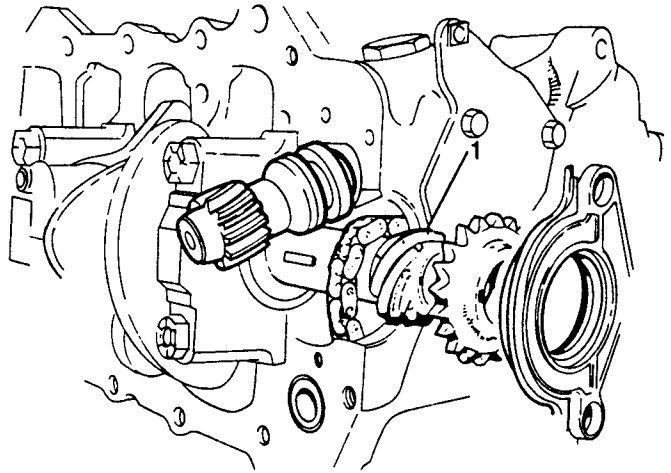

Fig B4.38
(6) Refer to Fig B4.38. Position the sprocket (1) over its woodruff key and replace the chain.
(7) Refit the oil pump drive shaft ensuring that it fits into the square hole at the top of the distributor drive shaft.
(8) Replace the oil pump (see Sub-section B4, Chapter 16).
(9) Replace the crankshaft oil seal (see Sub-section B4, Chapter 7).
(10) Replace the sump (see Sub-section B4, Chapter 17).